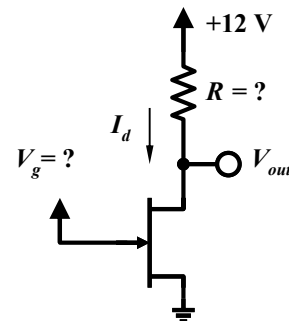

Figure 3-10 – A simple JFET biasing challenge
Consider the simple JFET circuit shown in Figure 3-10, powered from a 12V supply. To bias the transistor correctly in this case, we need to establish the correct gate voltage (which governs the drain current that can flow in saturation) and then we must choose the drain resistor to set the desired output voltage.
- Using the I-V data you took earlier, determine what gate voltage and resistor value is needed to make  $V_{out} = +7$ V and  $I_d = 5$ mA using a 2N5485 in the circuit of Figure 3-10.